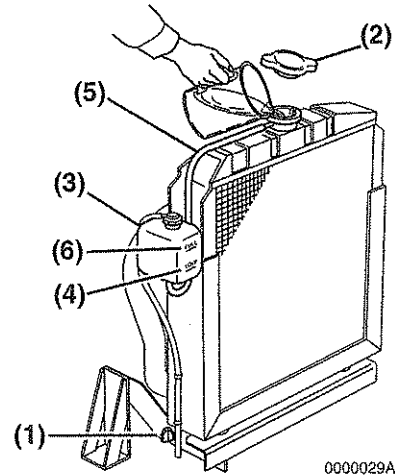

Figure 5
1. Check to be sure the radiator drain plug is installed and tightened or the drain cock (**Figure 5, (1)**) is closed. Also make sure the coolant drain plug (**Figure 6, (1)**) in the cylinder block is closed and the coolant hoses (**Figure 7, (1)**) are installed at the oil cooler.
1. Check the level of engine coolant in the reserve tank. When the engine is cold, the coolant level in the tank should be at or slightly above the LOW (COLD) mark (**Figure 5, (4)**) on the coolant reserve tank.
If the coolant level is at the FULL (HOT) mark (**Figure 5, (6)**) when the engine is cold, the coolant will expand when it becomes hot and possibly spray out of the overflow hose.
2. Remove the radiator cap (**Figure 5, (2)**) by turning it counterclockwise about 1/3 of a turn.
4. Reinstall the radiator cap (**Figure 5, (2)**). Align the tabs on the back side of the radiator cap with the notches on the engine coolant filler port. Press down and turn the cap clockwise about 1/3 of a turn.
5. Remove the cap of the reserve tank (**Figure 5, (3)**), and fill it to the LOW (COLD) mark (**Figure 5, (4)**) with engine coolant. Reinstall the cap.
6. Check the hose (**Figure 5, (5)**) that connects the reserve tank (**Figure 5, (3)**) to the radiator. Be sure it is securely connected and there are no cracks or damage. If the hose is damaged, engine coolant will leak out instead of going into the reserve tank.
7. Run the engine until it reaches operating temperature. Check the level of engine coolant in the reserve tank. When the engine is running and the engine coolant is at normal temperature, the coolant level in the reserve tank should be at or near the FULL (HOT) mark (**Figure 5, (6)**). If the coolant is not at the FULL (HOT) mark, add coolant to the reserve tank to bring the coolant level to the FULL (HOT) mark.